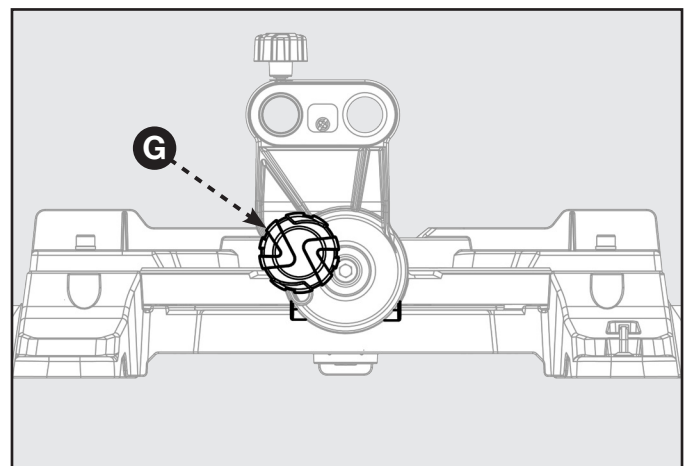

FIGURE 13
10. If the top or bottom of the blade face is not flush with the square, refer to Figure 13 below and perform the following steps.
11. Loosen bevel lock knob (G).